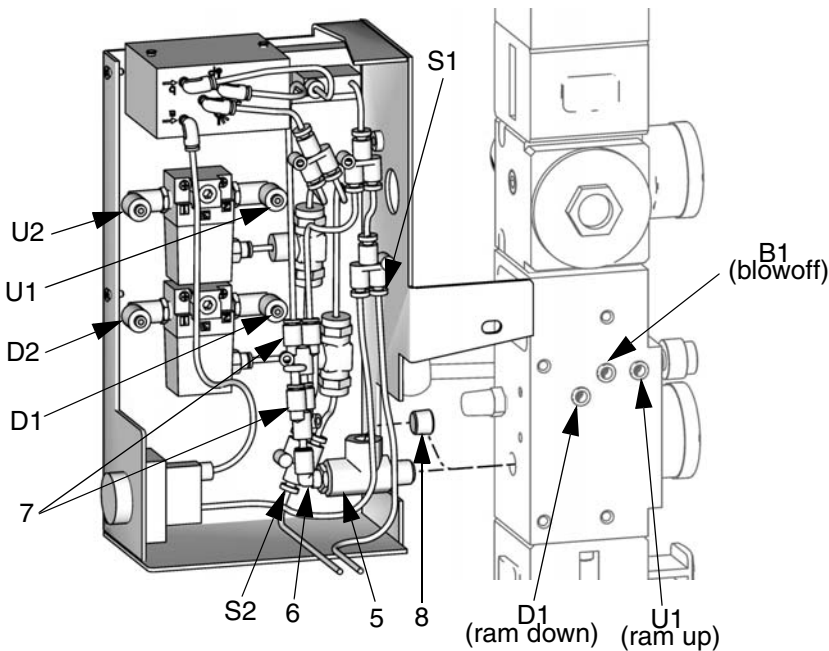

FIG. 13
See FIG. 13 for steps 9 - 14.
9. Inside 2-button interlock module, disconnect elbow fitting (6) and push fittings (7) from tee fitting (5). Remove plug (8) from auxiliary air supply port on back of integrated air controls. Install tee fitting (5) through into the port and through the opening in the bracket. Reconnect elbow fitting (6) and push fittings (7). Reinstall plug (8) at top of tee fitting (5).
10. Connect tubing (147) from ram down fitting on back of air controls to fitting (D1) on right side of bottom pilot valve. See FIG. 13.
11. Connect tubing from ram down fitting near top of ram cylinder to fitting (D2) on left side of bottom pilot valve. See FIG. 13.
12. Connect tubing (147) from ram up fitting on back of air controls to fitting (U1) on right side of top pilot valve. See FIG. 13.